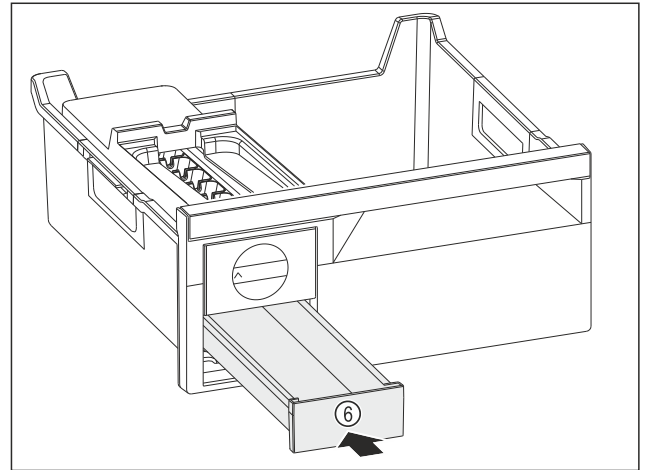

Fig. 129
- Insert the ice cube tray Fig. 129 (6).